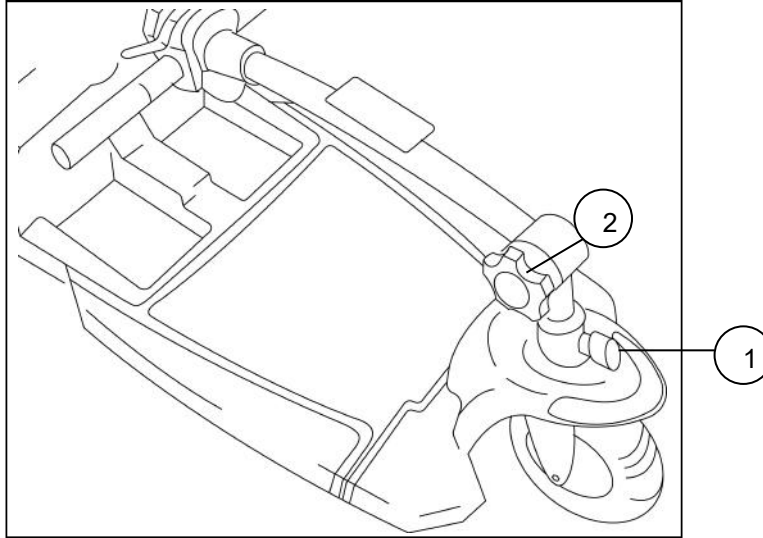

Figure 17. Lowered Tiller
6. Push in and turn the tiller lock clockwise 90 degrees. See #1 on figure 17. This will lock the front wheel to keep it from turning side to side to help control while carrying.
6. Loosen tiller adjustment knob and fold the tiller down flat. See #2 on Figure 17. Then tighten the adjustment knob to secure the tiller in its new position.